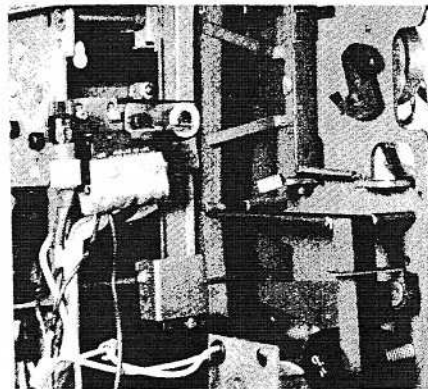

Figure 5
6. Thread ribbon as in Figure 5. Ribbon reversing grommets must be under Ribbon Reversing Fingers (10, Fig. 2).